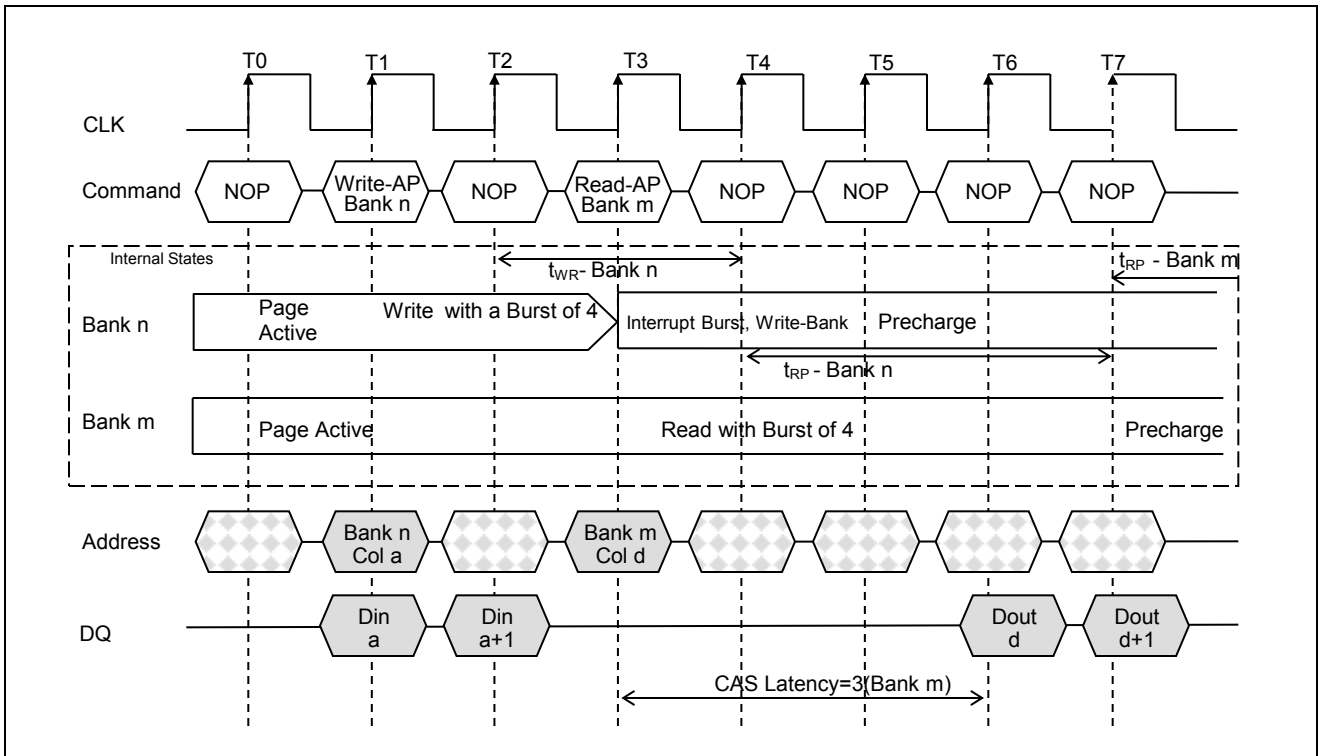

**Figure 25. Read with Auto Precharge Interrupted by a Read(CAS Latency =3)**
1. Interrupted by a Read(with or without auto precharge): A read to bank m will interrupt a Read on bank n, CAS latency later. The precharge to bank n will begin when the Read to bank m is registered. (Figure 25. )